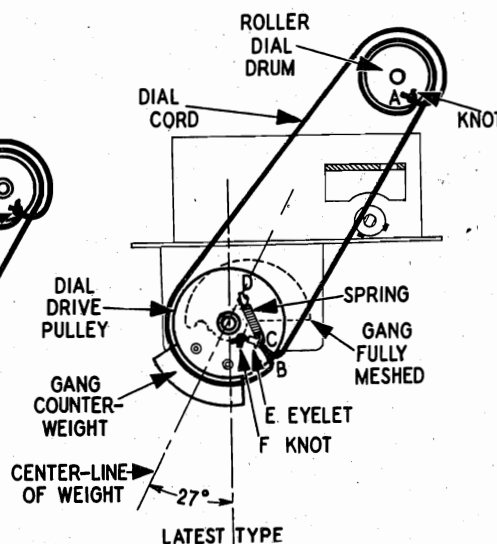

FIG. 14
The method marked "Latest Type" (Fig. 14) is the best but uses a different Dial Drive Pulley. Therefore early type or second type drives **cannot** be restrung as shown for latest type unless a new Dial Drive Pulley (Stewart-Warner Part No. 118176, Hudson Part No. BO-161539) is installed.
4. Rotate the gang condenser so its plates are fully meshed. (See Fig. 14.) Keep the gang in this position until the dial cord has been replaced.
6. Pass both ends of the cord outward through hole A in the roller dial drum. (Fig. 14.)
10. Tie a spring to the ends of the dial drive cord inside the dial drive pulley so that the cord extends about $\frac{3}{8}$ inch inside the pulley when the cord is pulled taut. See Fig. 14. This illustration shows the recommended method of fastening the spring using an eyelet. Fasten the other end of the spring to the tab D on the pulley. The spring should be stretched only very slightly when in place. Too much spring tension may cause binding.